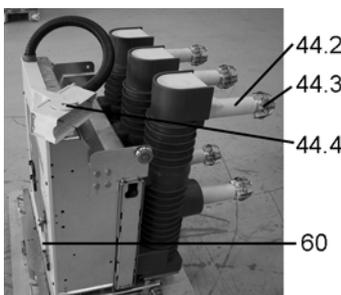

Figure 3.5
4) Withdrawable parts (see Figure 3.5)
The withdrawable part can only be moved from the test/disconnected position when the control wiring plug (44.4) (Figure 3.5) has been connected to socket (50.1) (mechanical interlock).
Connecting and disconnecting the control wiring plug (44.4) (Figure 3.5) is only possible in the test/disconnected position of the withdrawable part due to the door interlock.